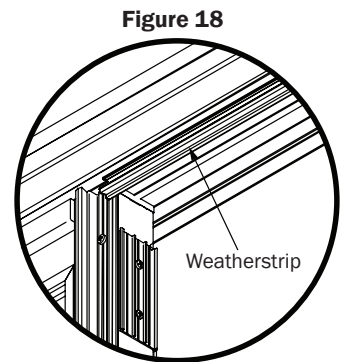

Figure 18
19. Once parting stop is in place, slide parting stop weatherstrip into parting stop T-slot (Fig. 18).